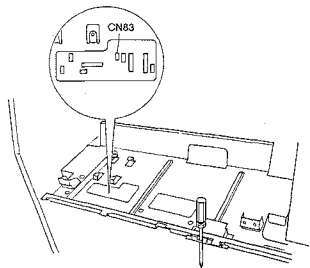

Fig. 9-1
2. Insert a screwdriver into the door - detection switch to turn it on, or short - circuit pins 1 and 3 of CN83 on BRAN. (Fig. 9-1)